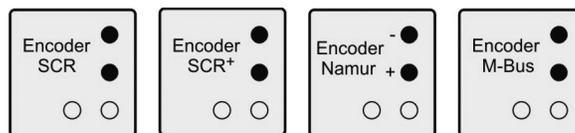

Figure 7: Encoder sticker
- Use only a screened cable (IEC-EN 60079-14) to connect the encoder and ensure that the pin assignment is correct (see sticker next to the cover of the terminal box), Figure 7.